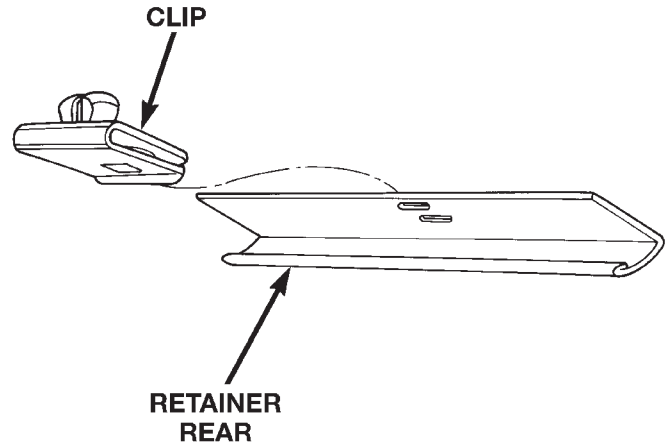

Fig. 87 Headliner Retainer Clip and Retainer Rail
(2) On vehicles without headliner speakers, ensure that the retainer clips on upper liftgate opening trim and rails are installed. (Fig. 87)
(3) Engage rear speaker harness connector.